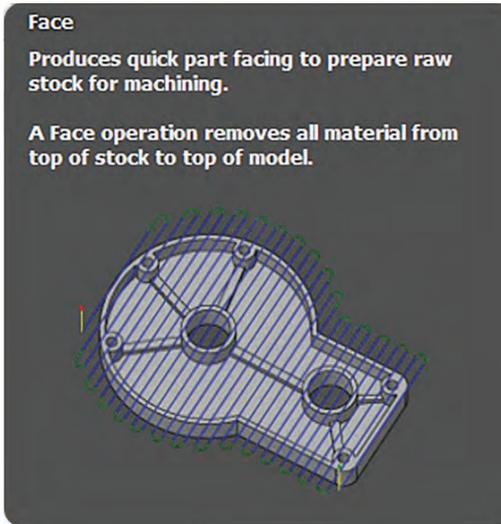

FIGURE 13-7: 2D facing is a 2D operation that removes all material from the top of the stock to the top of the model.
- ▶ **2D:** This menu has 2D operations, such as facing, contouring, and engraving. Figure 13-7 shows a tooltip for a facing operation, which quickly removes all material from the top of the stock to the top of the model, preparing it for machining.